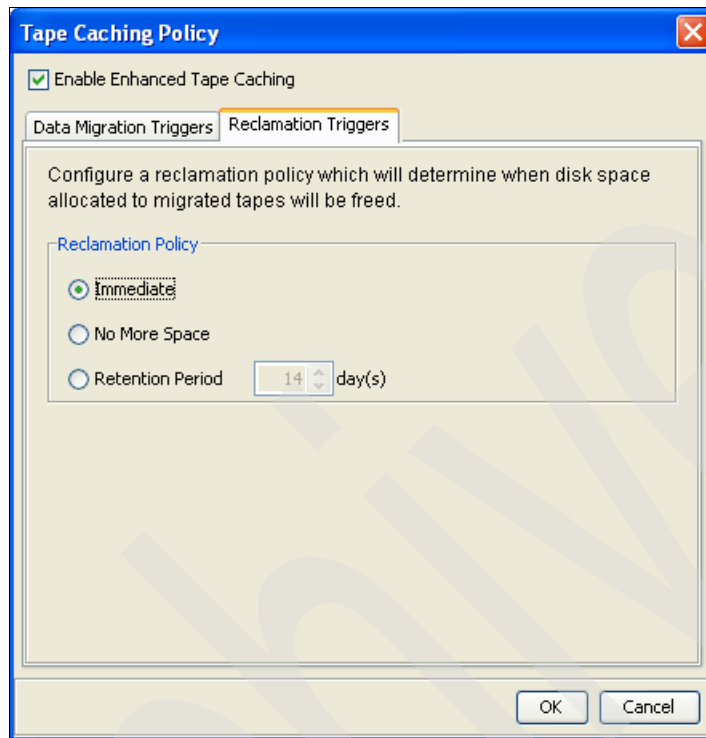

Figure 12-42 Set reclamation triggers
3. As shown in Figure 12-42, click the **Reclamation Triggers** tab and specify when the data that has been migrated to physical tape can be deleted to free up cache disk space.